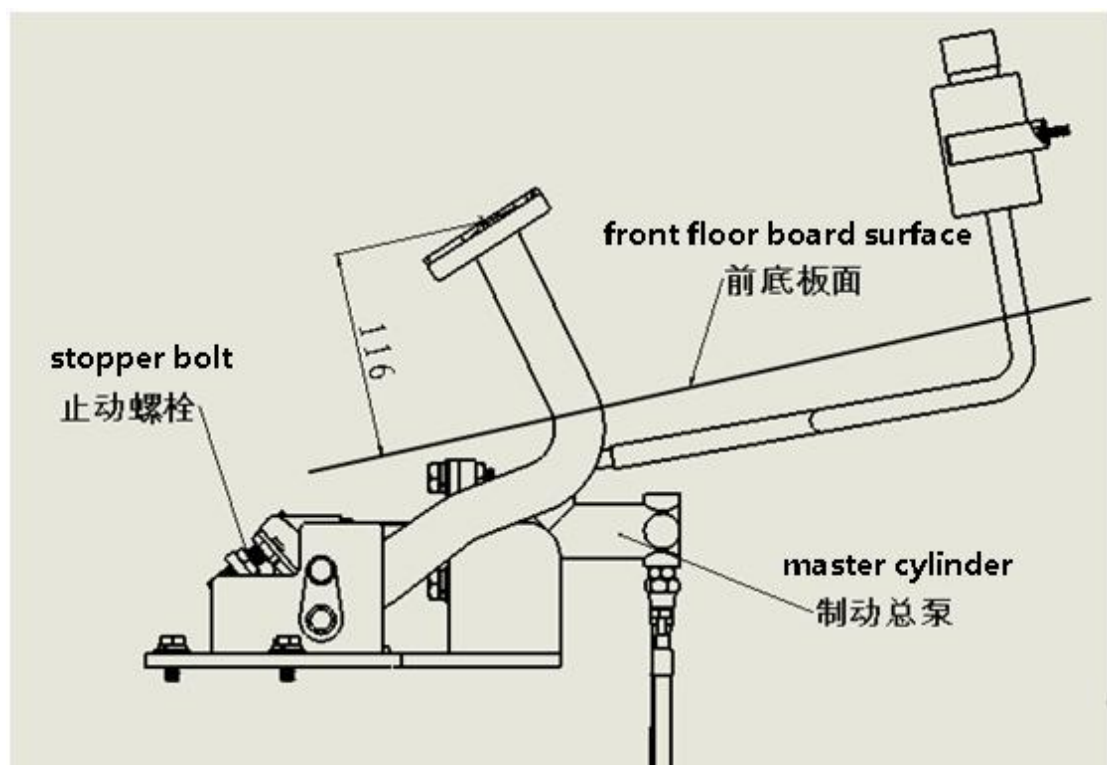

Fig. 6-1 Brake pedal mechanism
The structure of the brake pedal mechanism is shown in Fig. 6-1. The brake pedal mechanism is installed on the frame. As the brake pedal is pressed, the brake pedal arm pushes the piston forwards. The force applied on the pedal converts into the brake fluid pressure, at the same time, the brake fluid compress the friction lining to stop the truck.
- 2) Adjust the pedal to the height shown in Fig. 6-1 with stopper bolt, tighten the locking nut